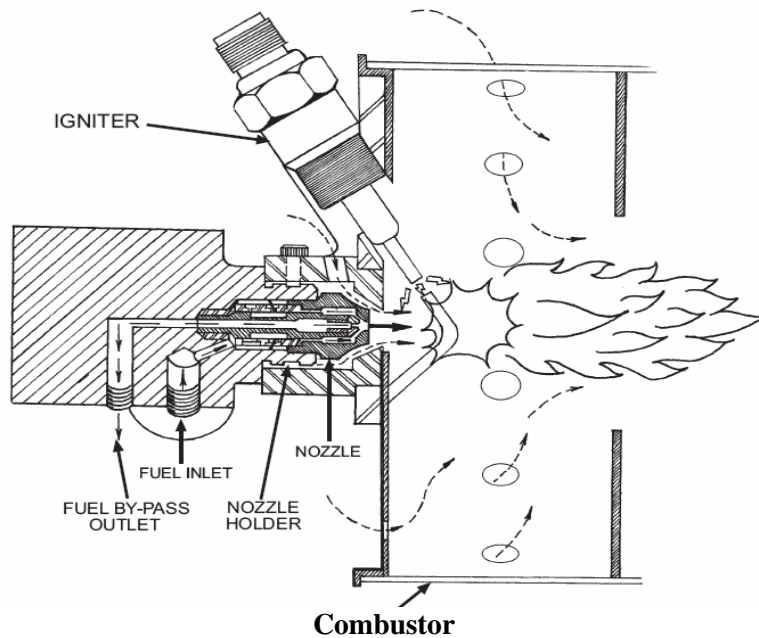
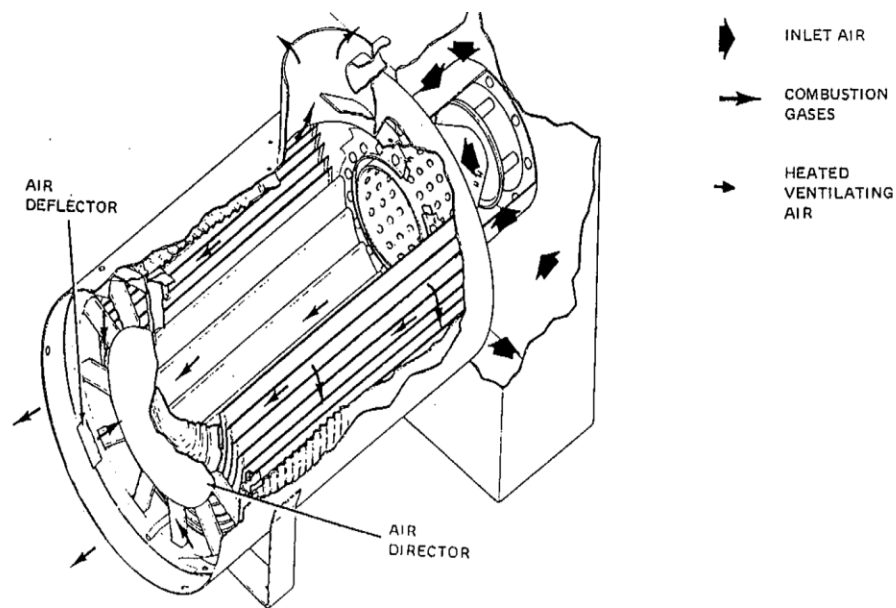

Figure 2-2 Sectional View of Nozzle & Combustor
Figure 2-3 Air Flow
2.9 Fuel flowing from the nozzle is ignited in the combustion chamber (*see figure 2-2*). The burning fuel strikes a plate or target in the combustor and is diffused into the heat exchanger. Air from the fan enters holes in the side of the combustor in a manner that will ensure proper fuel-air mixture. From the combustor, the burning fuel flows through the heat exchanger in a spiral path between the surfaces of the ventilating air tubes and is expelled through the parallel tubes and the space between the surfaces of the ventilating air tubes and is expelled through the exhaust opening at the top of the casing. (*See figure 2-3*) The ventilating or heating air is forced through the parallel tubes and the space between the heat exchanger shell and the casing. Heat is exchanged between the hot exhaust gases and the ventilation air. At the discharge end of the heat exchanger is the temperature sensing elements. The air control assembly consists of a baffle and a series of radial tubes. Air traveling between the walls of the heat exchanger and the casing is directed radially inward behind the baffle where it is mixed with warmer air leaving the parallel tubes of the heat exchanger. This mixing ensures a more uniform temperature throughout the discharge airstream. A duct adapter assembly is installed on the discharge end of the heater to connect the flexible duct.